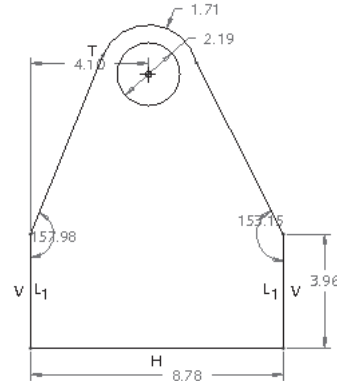

Figure 1-25 Sketch with all entities, weak dimensions, and weak constraints
4. Press the middle mouse button to end the circle creation. The sketch is complete and appears similar to that shown in Figure 1-25.
5. Press the middle mouse button to place the dimension below the sketch, refer to Figure 1-25.